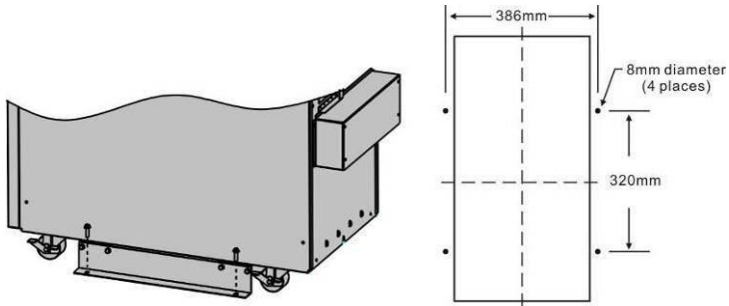

Figure 4: Floor attachment
- For stability, we recommend bolting down the UPS system/the battery module to the floor (see Figure 4).